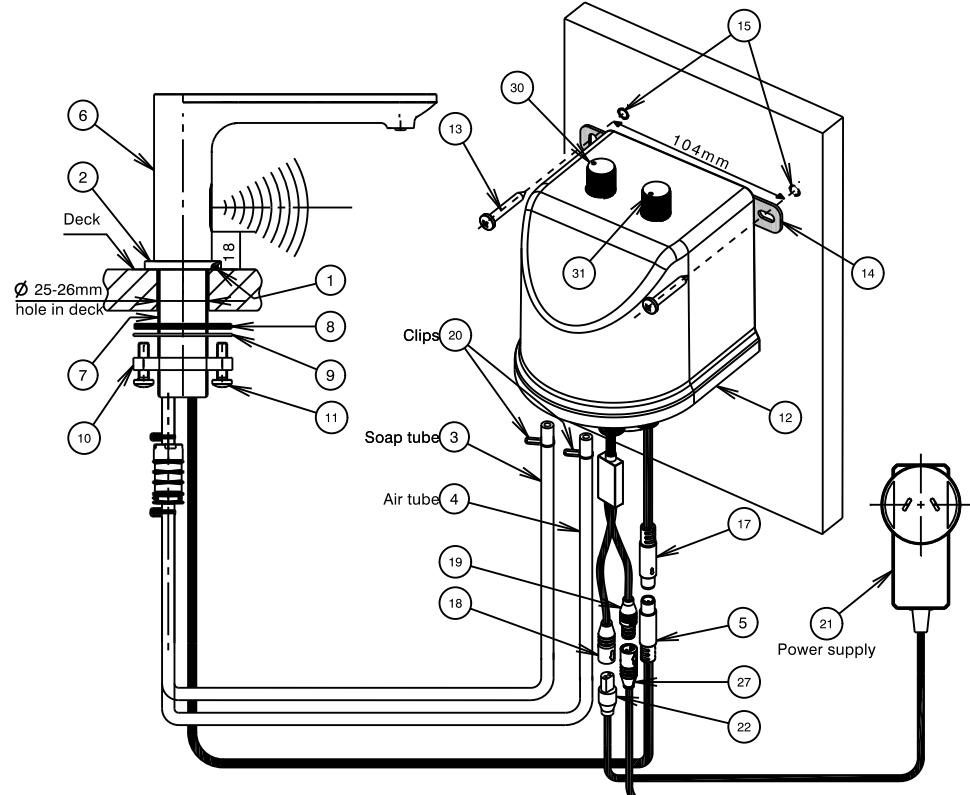
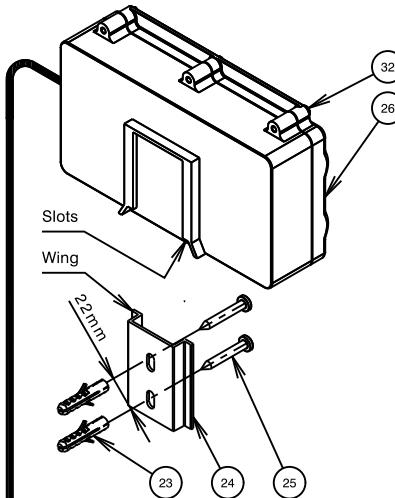
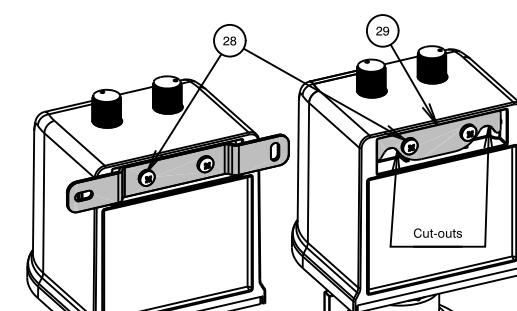

Fig.2 - Sensor unit installation
Fig.6 - Battery box installation
Fig.7
- 1) Ensure 'O'ring (1) is fitted into groove in base ring (2).
- 2) Insert the soap tube (3), air tube (4) and sensor cable (5) through the hole of base ring (2). Pass base ring (2) through threaded tube (7) until the base ring (2) sits against bottom of sensor body (6).
- 3) Insert soap tube (3), air tube (4) and sensor cable (5) through the hole in the deck. Insert threaded tube (7) into deck hole, orientate sensor body as required. From under the deck, Insert soap tube (3), air tube (4) and sensor cable (5) through flat seal (8), washer (9) and clamp ring (10) in order, then fit flat seal (8) followed by washer (9) over threaded tube (7) as shown in Fig. 2. Screw clamp ring (10) onto threaded tube (7) until it contacts washer (9) & the flat seal (8) has contacted the underside of the deck. Tighten two screws (11) equally until sensor assembly is clamped firmly to the deck. DO NOT OVERTIGHTEN.
- i) Remove the screws (28) using a phillips head screw driver.
- ii) Remove the wider fixing plate (14) and put it aside.
- iii) Take the narrower fixing plate (29) out of the bag, fit it at the back of the control box (12) by aligning the holes on the fixing plate (29) with the holes at the back of the control box (12). The cut-outs on the plate should be towards the bottom, as shown in Fig.7.
- iv) Fit the screws (28) and tighten, DO NOT OVERTIGHTEN.
- i) Drill two Ø6mm holes, 40mm deep and 52mm apart horizontally as shown in Fig. 7.
- ii) Insert small end of wall plugs (15) into drilled holes and tap until flush with wall/tile face.
- iii) Insert screws (13) into wall plugs, screw them until the head is 6mm away from wall/tile face as shown in Fig. 7.
- iv) Mount the control box (12) onto the screws (13).
- i) Drill two holes at 52mm apart horizontally to suit the self tapping screws supplied as shown in Fig. 7.
- ii) Insert screws (13) into the holes, screw them until the head is 6mm away from wall/tile face as shown in Fig. 7.
- iii) Mount the control box (12) onto the screws (13).
- i) Drill two Ø6mm holes, 40mm deep and 22mm apart vertically as shown in Fig. 6.
- ii) Insert small end of wall plugs (23) into drilled holes and tap until flush with wall/tile face.
- iii) Align the slots on bracket (24) with the holes on the wall, pass the screws (25) through the slots and insert into the wall plugs (23). Then tighten the screws. DO NOT OVERTIGHTEN.
- iv) Mount the battery box (26) onto wings of bracket (24).
- i) Drill two holes at 22mm apart vertically to suit the self tapping screws supplied as shown in Fig. 6.
- ii) Align the slots on bracket (24) with the holes on the wall, pass the screws (25) through the slots and insert into the holes in the stud. Then tighten the screws. DO NOT OVERTIGHTEN.
- iii) Mount the battery box (26) onto wings of bracket (24).
6) Connections :**a) Soap tube and air tube connections, (Fig. 2 & Fig. 5):**
b) Sensor cable connection, (Fig.2):
By aligning the profile of connectors (5) & (17), connect the sensor cable (5) from the outlet to the end of sensor cable (17) of soap control unit as shown in Fig. 2.
While aligning the 'D' profile of male and female connectors Connect male connector of power cable (22) to female connector (18) of soap control unit (12) as shown in Fig. 2. Connect male connector(19) from control unit (12) to female connector (27) of battery box (26). Ensure all cable connectors are pushed in fully.
7) Adding/Replacing batteries, (Fig. 6)